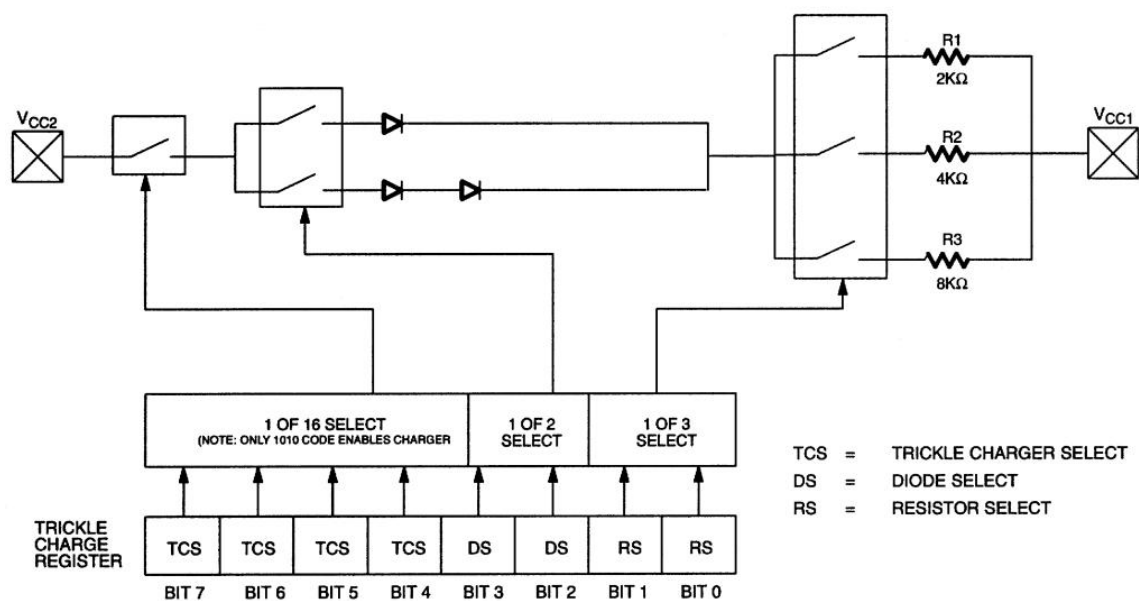

Figure 5
This register controls the trickle charge characteristics of the DS1302. The simplified schematic of Figure 5 shows the basic components of the trickle charger. The trickle charge select (TCS) bits (bits 4 -7) control the selection of the trickle charger. In order to prevent accidental enabling, only a pattern of 1010 will enable the trickle charger. All other patterns will disable the trickle charger. The DS1302 powers up with the trickle charger disabled. The diode select (DS) bits (bits 2 – 3) select whether one diode or two diodes are connected between V_{CC2} and V_{CC1} . If DS is 01, one diode is selected or if DS is 10, two diodes are selected. If DS is 00 or 11, the trickle charger is disabled independently of TCS. The RS bits (bits 0 -1) select the resistor that is connected between V_{CC2} and V_{CC1} . The resistor selected by the resistor select (RS) bits is as follows: